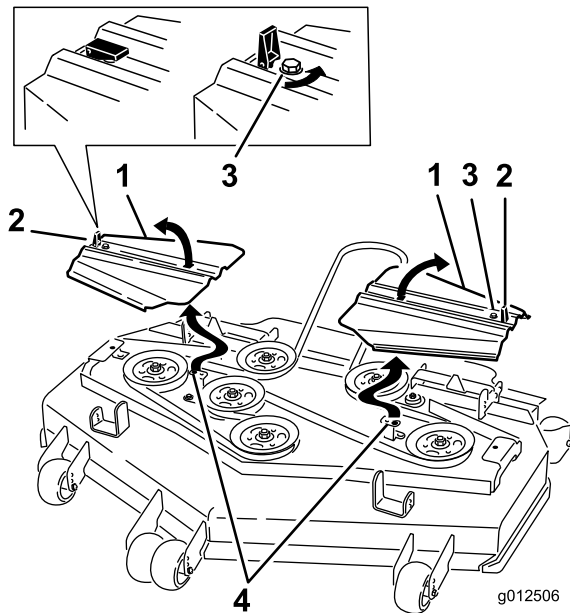

Figure 62
12. Install the belt covers with the tabs in the slots. Install the screws and close the latches (Figure 62).